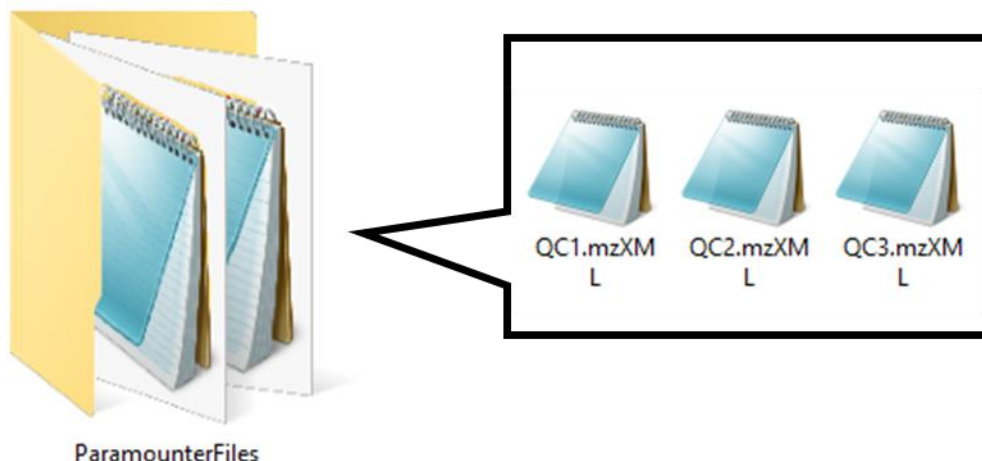

Figure 1. The organization of the files used for Paramounter.
1) **File preparation.** User needs to create a folder to store the files used for parameter optimization. It is recommended to use 3-4 QC data files from the beginning, middle, and end of the sample analysis if it is a large cohort study. All the QC mzXML files need to be put in the folder user has created. As shown in **Figure 1**, it illustrates the details of how the files should be organized in the corresponding folders. If user intends to use mzML files, please change the R code line 19 in part 1 and line 21 in part 2 to “filename <- list.files(pattern = “.mzML”)”.